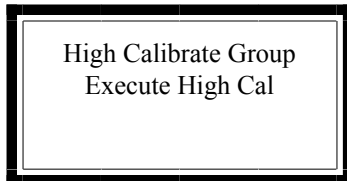

Figure 10a: Executing the High Calibration Variable.
2) Toggle the "Next" key until you reach the "Execute High Cal" Menu, Figure 10a, and press the MODify key, and follow the two remaining prompts. (Continue, Save)